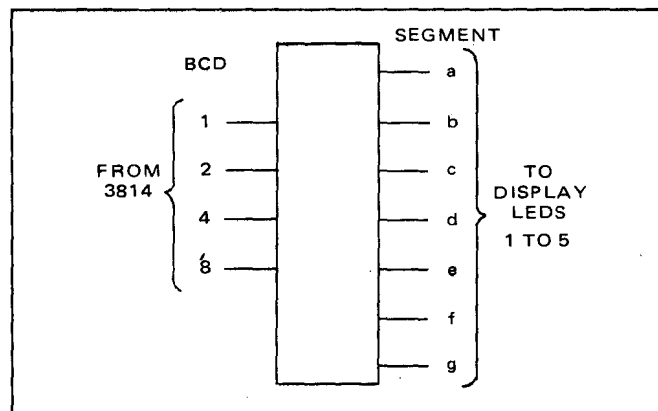

Figure 4.14 - 4-to-7 Line Decoder
4.35 *4-to-7 Line Decoder.* The 4-to-7 line decoder is shown on figure 4.14. This device is simply a matrix decoder that converts BCD code to 7-line code for display purposes. It's driven by the BCD code from the 3814 counter chip and its 7-line output is tied in parallel to all of the display LEDs.